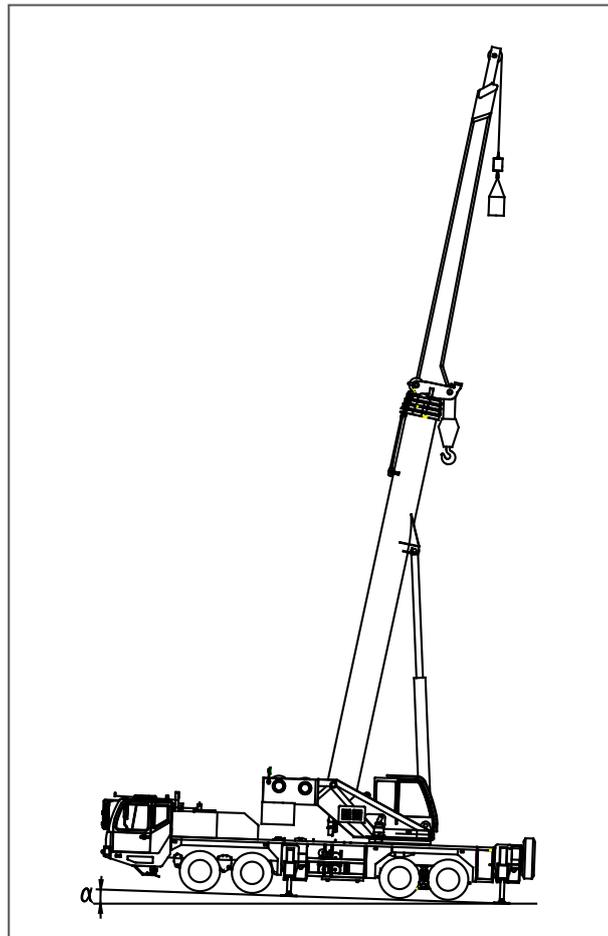

Figure 02 – 02
- d) Before operation, the crane must be leveled. Under any working conditions, the inclination angle α of the crane can not be more than 0.6° . Refer to Figure 02 – 02.